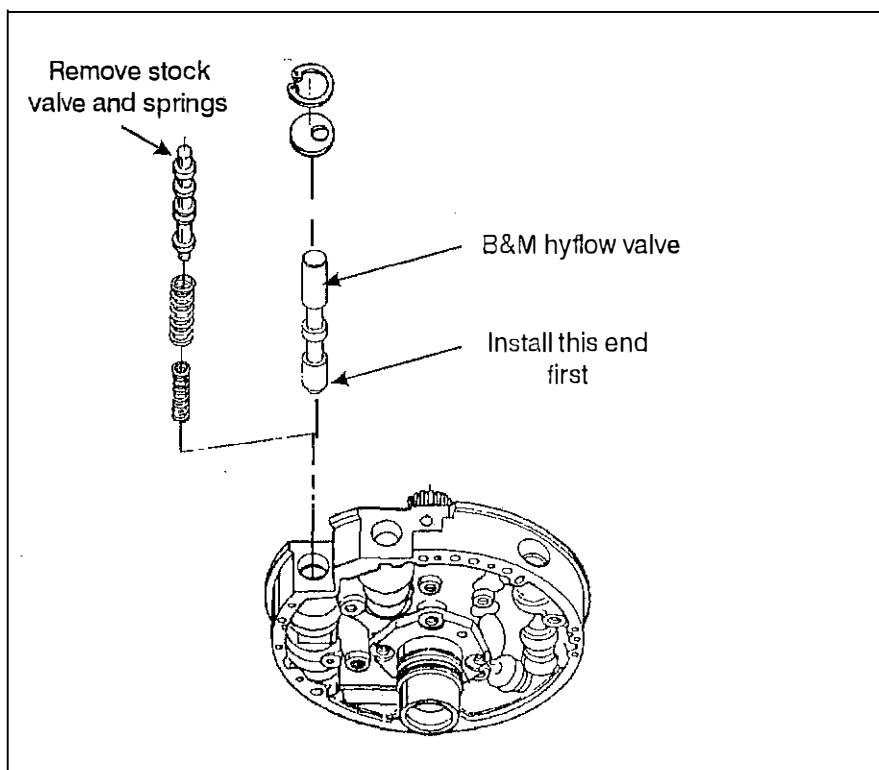

Figure 6
STEP 13. Remove retaining ring, washer, valve and springs from TCC valve bore see (Fig. 6). Install B&M Hyflo converter/lube valve, washer and retaining ring as shown (large chamfered goes into bore first). Springs are not used with the B&M Hyflo valve. Use the new retaining ring supplied with kit when installing valve.